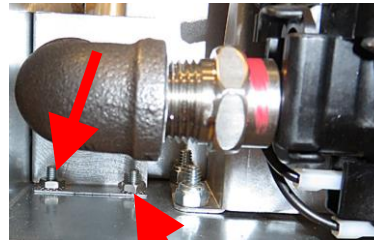

Figure 7
9. Locate the inlet plumbing on the left side of the ATO pump, as viewed from the rear of the fryer. Using a 3/8" nut driver, remove the two (2) nuts attaching the inlet hose bracket (see Figure 7).